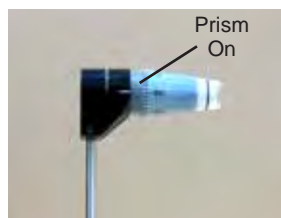

Figure IU-01 Prism On
3. Install the Prism into the Prism Holder by pressing the Prism into the holder until it snaps into place. Refer to Figures IU-01 and IU-02.